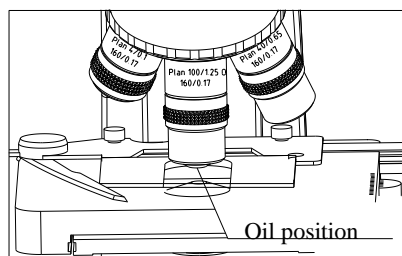

Fig.9
- (1) Use the objective 40X to focus the specimen.
- (2) Put a drop of oil on the specimen. (See fig.9)
- (3) Rotate the nosepiece to place the 100X objective (oil) into the light path. Then use the fine focusing knob to focus.